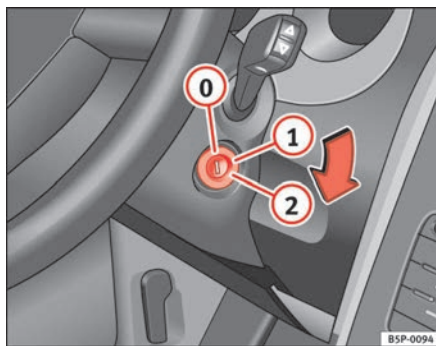

Fig. 138 Ignition key positions
In this position ⇒ fig. 138 the ignition and the engine are OFF and the steering may be locked.
- Turn the ignition key to position ⇒ page 167, fig. 138 ①. The indication lamp  will light for engine pre-heating.
- When the warning lamp turns off, turn the key to position ② to start the engine. Do not press the accelerator.
- Turn the ignition key to position ⇒ page 167, fig. 138 .